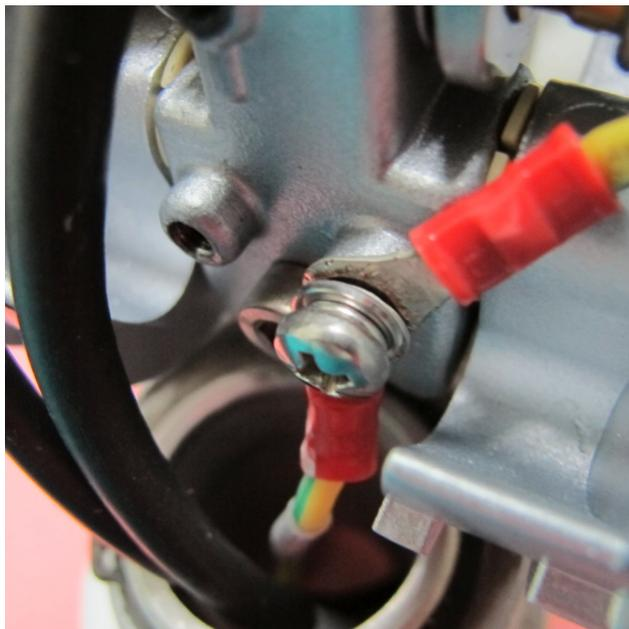

Figure 8-124
4.) Reconnect the two Ground cables previously removed - see Figure 8-124 below.